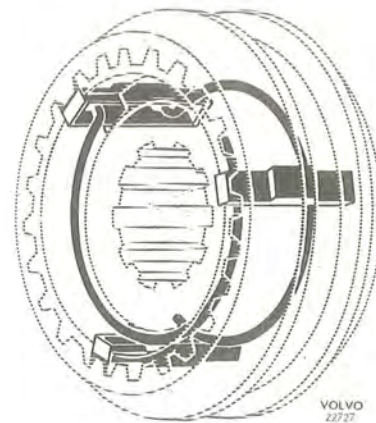

Fig. 4-26. Assembling the synchronizing
1. Assemble 1st-2nd and 3rd-4th synchronizers. Fit the snap rings correctly, see Fig. 4-26.